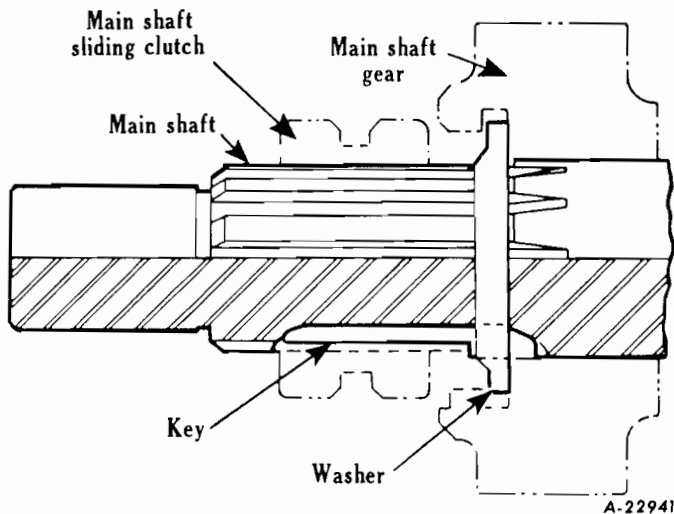

Fig. 4
- Remove mainshaft rear bearing retainer (47) and countershaft rear bearing (38). Slide off speedometer drive gear (41) and remove key. After locking gears by engaging two speeds, the countershaft rear bearing lock nut (37) is removed from end of countershaft.
- Drive mainshaft assembly toward rear of case sufficiently to expose rear bearing snap ring (40). Install suitable puller and remove bearing (46) from mainshaft (33). By tilting the mainshaft assembly, front end upward, the entire unit comes out easily leaving sliding gears (51, 54) inside case. After shaft assembly is removed, the sliding gears may then be lifted out of case.
- To disassemble the mainshaft, remove the pilot bearing (16) and sliding clutch (18) using the latter part to free the bearing. After removing key (59) (Fig. 4) rotate gear retainer washer until its inside lugs line up with grooves in shaft and then remove.
- (b) Remove peened over material from slot in drive gear shaft (14) and turn off drive gear bearing lock nut (17). NOTE: Nut is left hand threaded. Press bearing (12) from main drive gear (14).